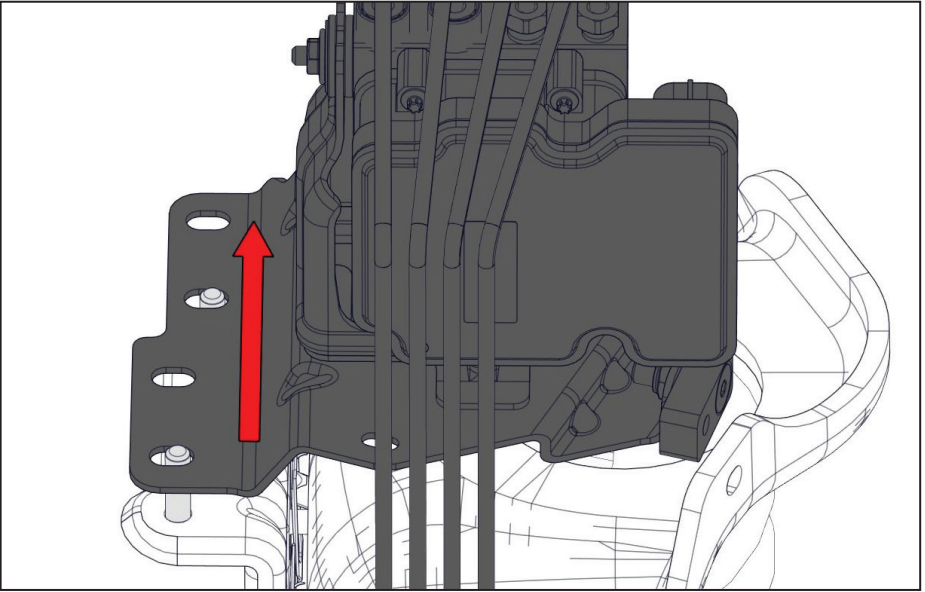

Figure 22 — Relocating the HCU
- Gently shift the HCU towards the firewall taking care not to bend or kink the brake lines. Align the bracket with the second set of mounting holes (Figure 22).